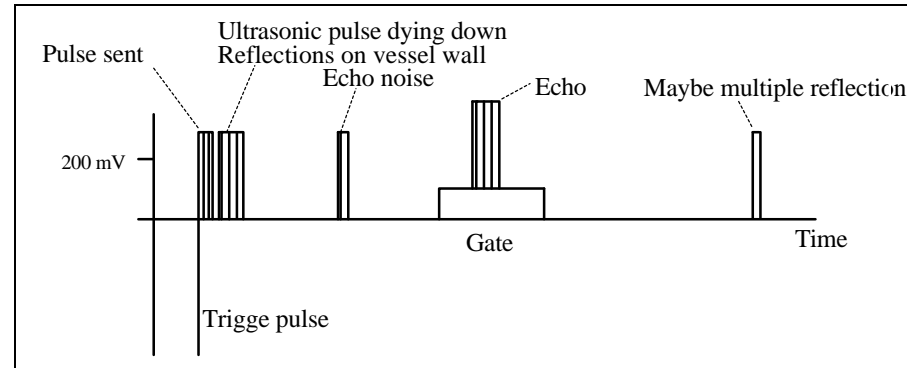

Figure 12: Signal at test output in pulse-echo method with lateral probe attachment
- If no echo pulses can be seen as illustrated in figure 12, increase the transmission energy (P 03) and/or the gain (P 04) until ultrasonic signals are received continually.